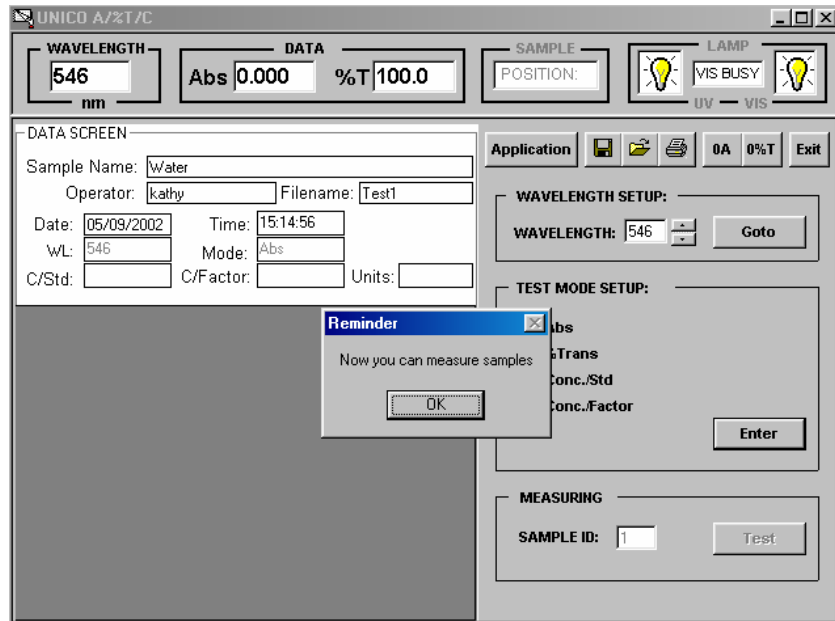

Figure-20 Test Mode Selection
Step 4: Select the test modes: **Abs** or **%Trans**, and press **Enter** button (Figure-20 Test Mode Selection)